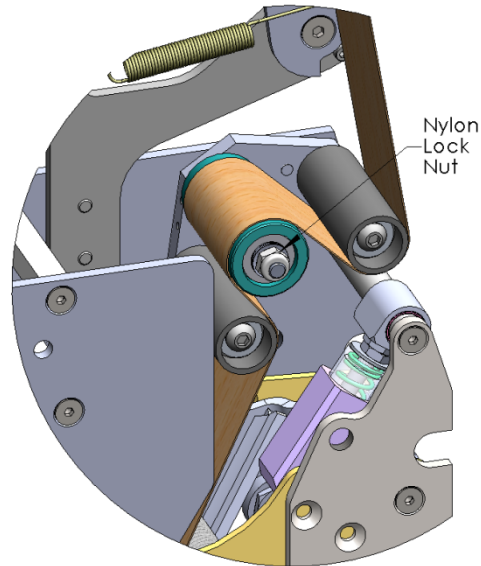

Figure 7-12
To adjust the tape leg length on the leading end of the box, refer to **Figure 7-12** of the clutch assembly. Facing the rear main frame, loosen the two (2) Flat Head Cap Screws using a 3 & 4 mm hexagonal key. Rotate the clutch assembly to bring the lowers screw towards the minus (-) sign stamped on the rear plate for a shorter tape leg. Conversely, bring the bottom screw towards the plus (+) sign for a longer tape leg. Re-tighten both Flat Head Cap Screws.